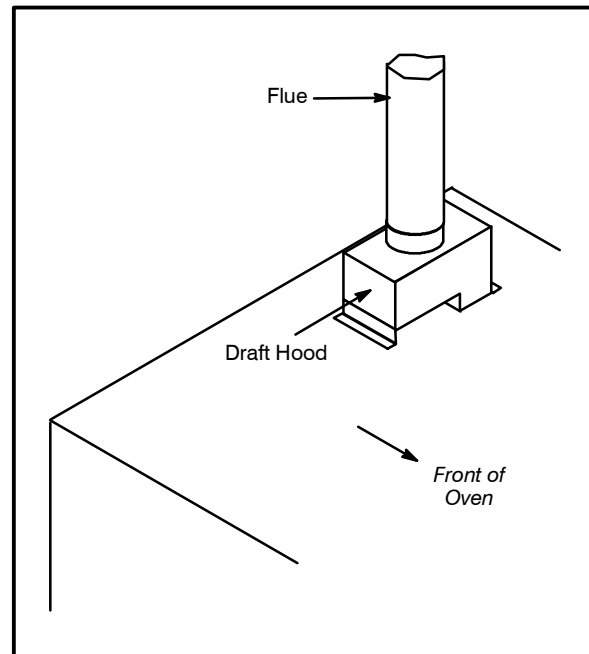

Figure 8
1. Place the draft hood over the flue connector. See Figure 8.